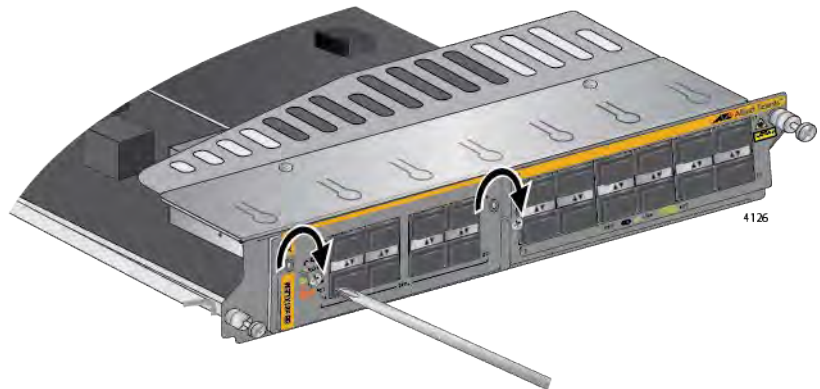

Figure 86. Securing the Expansion Module
10. With a Phillips-head screwdriver, install the two screws from step 4 to secure the expansion module to the line card. Refer to Figure 86.